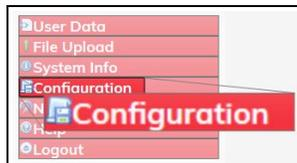

Figure 283: Configuration link
4. On the **Menu** list, click the **Configuration** link. Figure 283